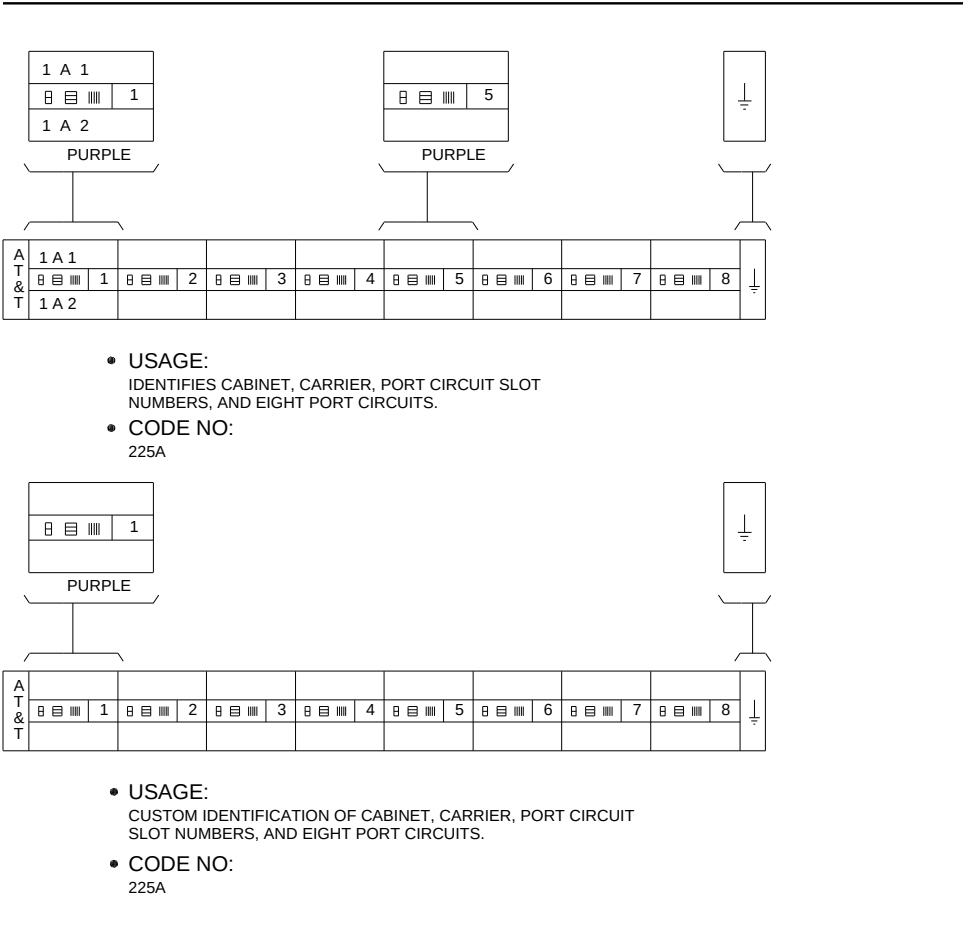
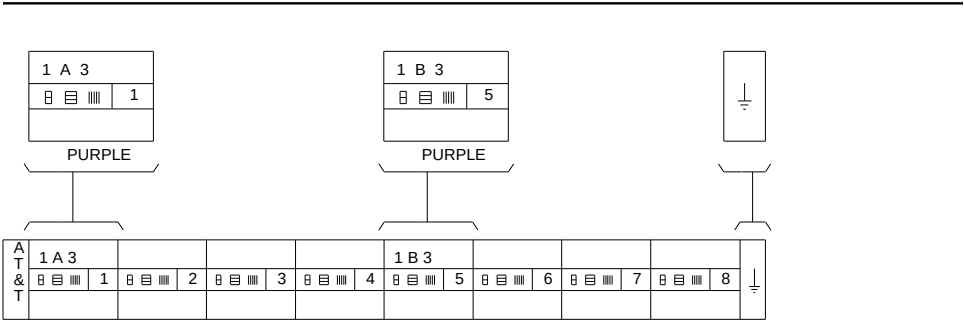
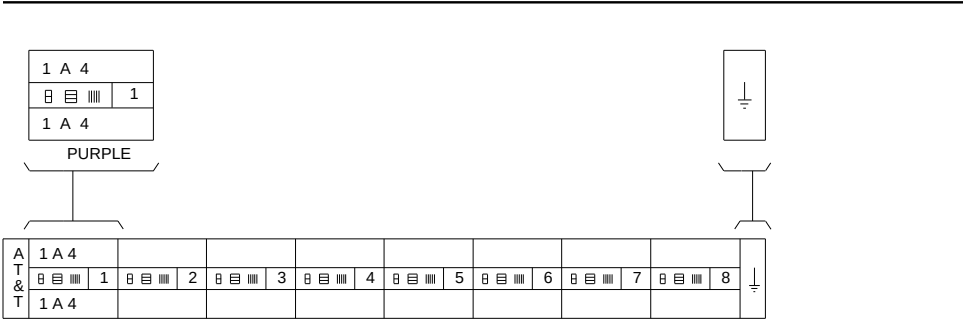
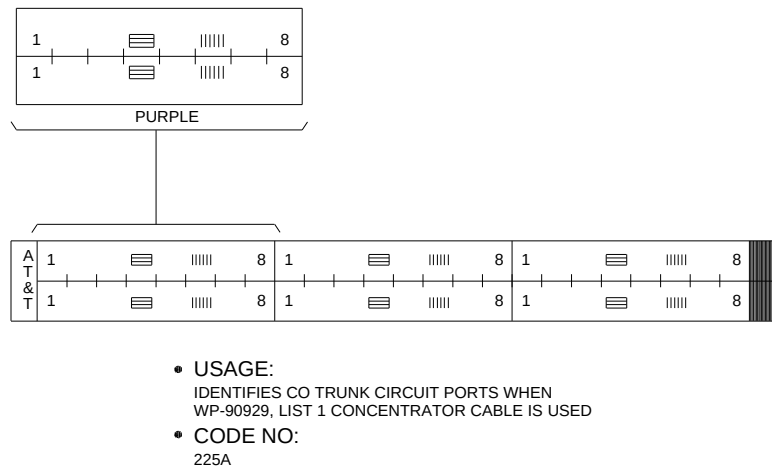

Figure 9-33. Port Labels
Figure 9-34. Example of Port Label for MET Line Circuit Pack
Figure 9-35. Example of Port Label for 16-Port Analog Line Circuit Pack
Figure 9-36. Switch Trunk Port Circuit Labels
The labels shown in Figure 9-33 identify the equipped carrier slots (see Note) in the switch cabinet. These labels are grouped together (by carriers) starting with Carrier A. These labels are used for the trunk/auxiliary field, and the distribution field. They are installed starting with the first terminal block in either field. The top label is grouped and numbered in sequence **1A1** to **1A10** and **1B1** to **1B20** through **1E1** to **1E20** to correspond to the cabinet, carrier, and slot of the port circuit pack. The bottom label must be filled in manually. It is used to label the MET circuit pack and the 16-port analog line circuit pack. An example of how to fill out the label for the MET circuit pack is shown in Figure 9-34. An example of how to fill out the label for the 16-port analog circuit pack is shown in Figure 9-35. If WP-90929, List 1 or 3 concentrator cables are used to connect trunk or tie trunk circuits to the switch, then use the labels shown in Figure 9-36 and 9-37 for these circuits. Figure 9-36 shows an example of how to fill out a dual-purpose emergency transfer station label.
WP-90929, List 1 or 3 concentrator cables can be used between the switch cabinet and the 110-type terminal blocks. The label shown in Figure 9-36 identifies 3-pair trunk circuits from the switch cabinet. The label shown in Figure 9-37 identifies 3-pair tie trunk circuits from the switch cabinet.
- (45) Purple labels (Figure 9-33) that identify 3-pair port circuits from the switch. The labels are numbered for the carriers at the switch, A through E, and each carrier has slots numbered 1 to 20, except carrier A which is only 1 to 10. Each label identifies 16 3-pair circuits.
- (10) Unnumbered purple labels (Figure 9-34) that identify 3-pair port circuits from the switch. Each label identifies 16 3-pair circuits.